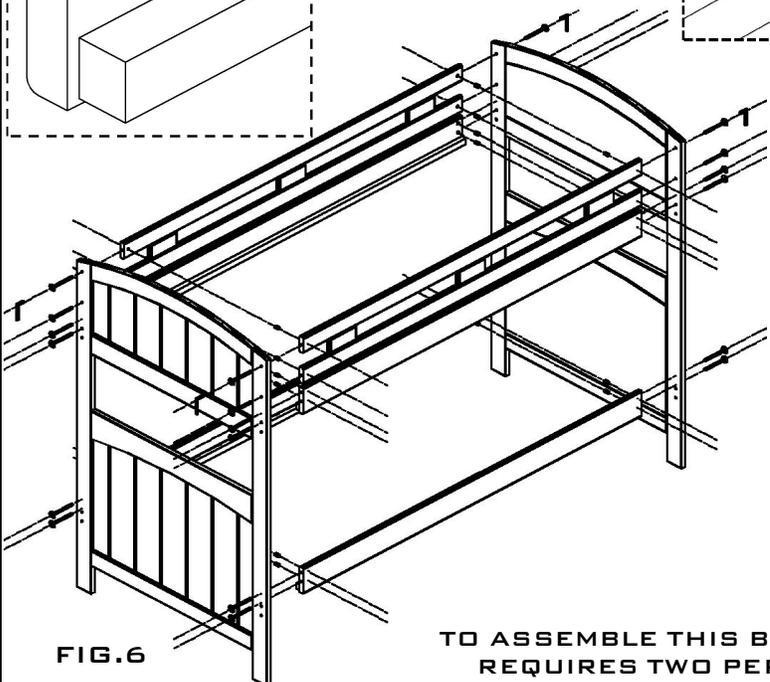

FIG. 6
3.- ATTACH TWO SIDE RAILS (B), &TWO GUARD RAILS (C) ON 1 PC BUNK BED END TWIN WITH THE GROVE LINES AS SHOWN IN **FIG.6**, INSERTING TWO 80MM FLAT BOLTS (D) INTO 1 PC BUNK BED END TWIN HOLES, USE THE 5MM ALLEN WRENCH (F) TO TIGHTEN BOTH BOLTS (DO NOT TIGHTEN COMPLETELY UNTIL ALL PIECES ARE CONNECTED TOGETHER), **SEE FIG.6**, REPEAT THE SAME PROCESS AT ALL FOUR CORNERS.
4.- TO ATTACH BOTTOM SIDE RAILS, REPEAT THE SAME PROCESS AS SHOWN IN TOP SIDE RAILS, **SEE FIG.6**